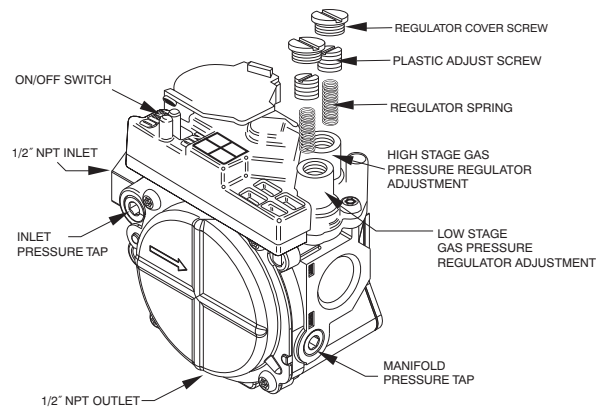

Fig. 29 – Two-Stage Gas Valve (208/230 VAC Models)
1. Remove regulator cover screw(s) over plastic adjustment screw(s) on gas valve (see Fig. 29).
2. Turn the high stage plastic adjustment screw clockwise to increase gas input and counterclockwise to decrease input (see Fig. 29). Manifold pressure must be between 3.2 and 3.8 IN. W.C. for high stage.
3. Replace high stage regulator cover screw on gas valve (see Fig. 29).
4. Turn the low stage plastic adjustment screw clockwise to increase gas input and counterclockwise to decrease input (see Fig. 29). Low stage manifold pressure must be between 1.4 and 2.0 IN. W.C.
5. Replace low stage regulator cover screw(s) on gas valve (see Fig. 29).